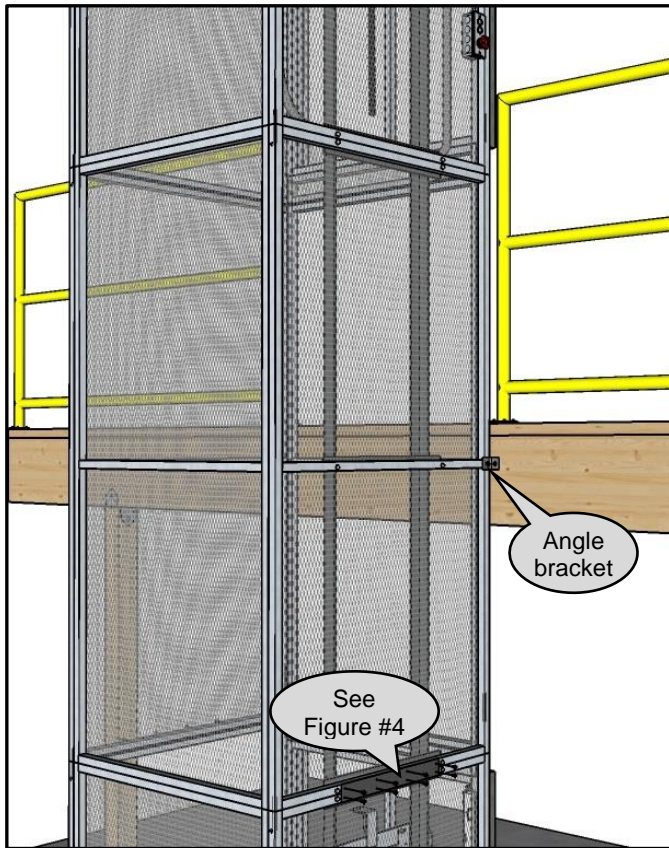

Figure 7
- 5** With the shaft now bolted to the floor, use the provided angle brackets and $\frac{1}{4}$ " x 1" self drilling screws to secure the brackets to the shaft and the #12 x 3" lag screws to secure the bracket to the mezzanine. **Make sure the shaft is not pulled out of plumb by overtightening the lag screws.** Two angle brackets are provided to secure the shaft to the mezzanine. Angle brackets should be installed on opposite sides where possible. (see Figures 7, 8, & 9)